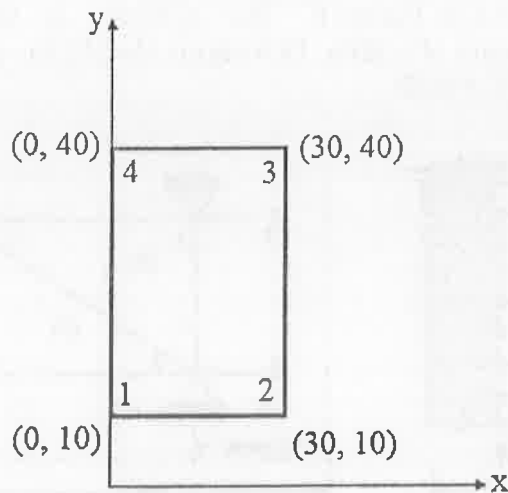

Figure. 7
15. (a) For the element shown in Figure 7, assemble Jacobian matrix and strain displacement matrix for the Gaussian point (0.57735, 0.57735).